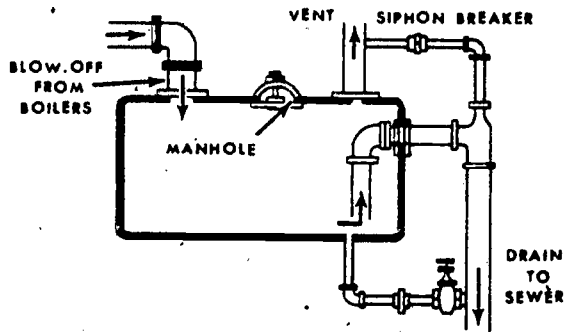

Figure 44. A typical flash tank.
61. The blowdown water or steam should never be piped directly into the atmosphere or sewer because of the possibility of injuring people and damaging the sewer connections. The correct method of disposing of this hot water and steam is by the use of a flash tank, sometimes called a *blowdown basin*. (See fig. 44.) This tank is usually buried underground to prevent freezing. It is equipped with a bottom drain for emptying the tank when cleaning is necessary. A manhole is also provided for cleaning and inspecting purposes.